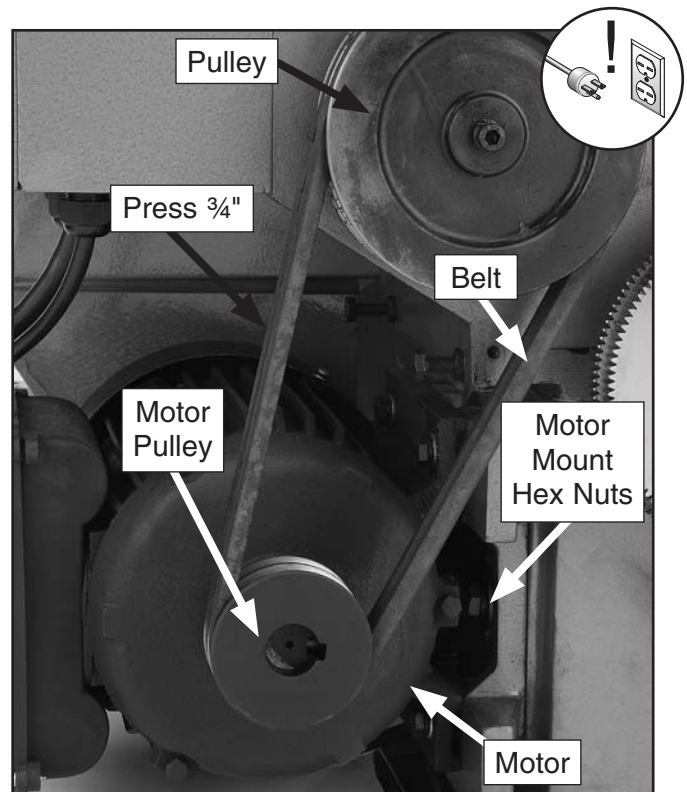

Figure 88. V-belt adjustments.
4. Remove the tension off the old V-belts by loosening the motor mount nuts (**Figure 88**) and sliding the motor up.